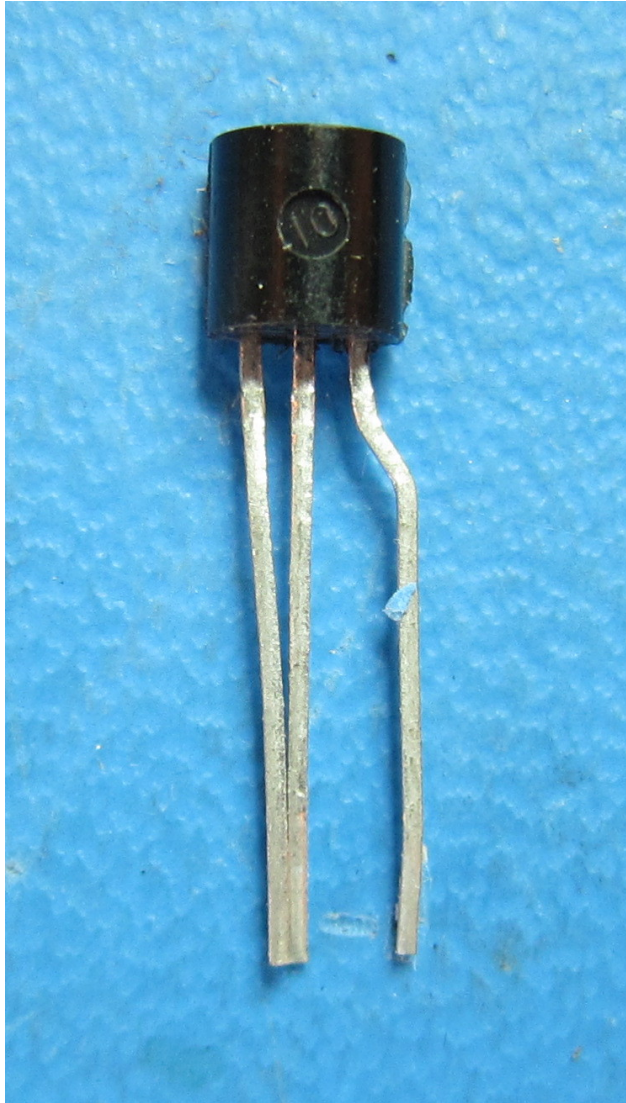

Figure 1: Transistor pins formed and ready for soldering.
2. Using flat nose pliers straighten the leftmost pin and bring it close to the middle pin, as shown in Fig. 1.